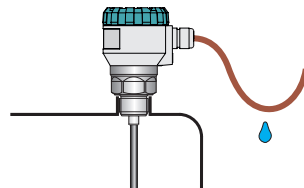

Fig. 15: Prevention to avoid intrusion of humidity through cable gland
- The cable must be led under the cable gland (sagging diagonally downwards), fig. 15.